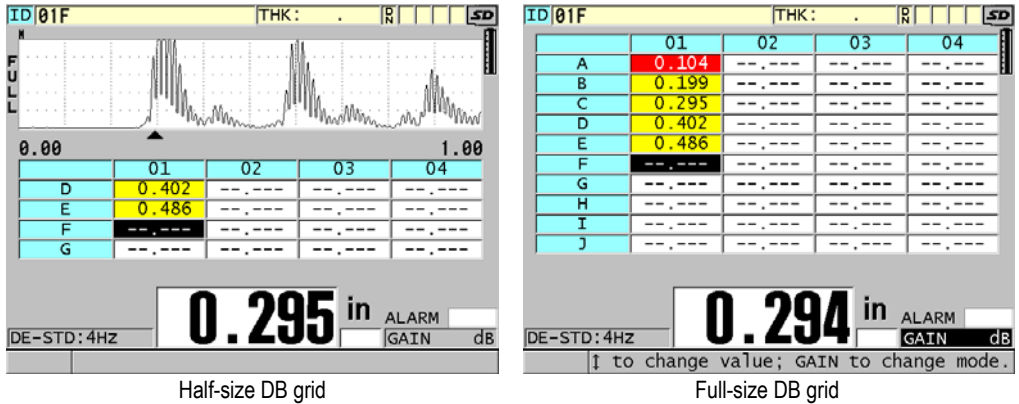

Figure 10-10 Example of half-size and full-size DB grids
- Set **GRID SIZE** to one of the desired database grid size options (see Figure 10-10 on page 149):